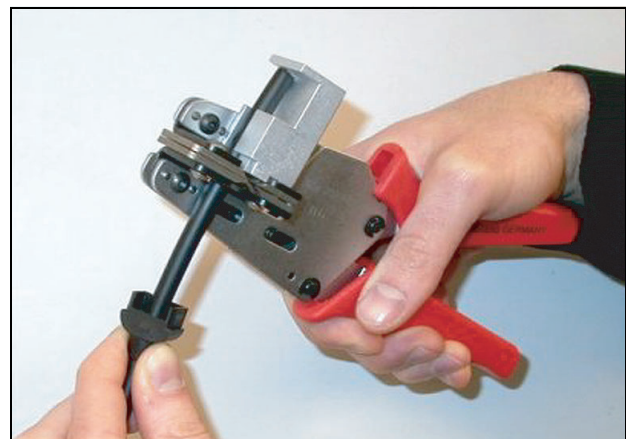

figure 22.7: Stripping the cable
- 5 Using the stripping tool (tool 5), strip the outer sheath of the cable by pushing the cable to the mechanical stop (see figure 22.7).